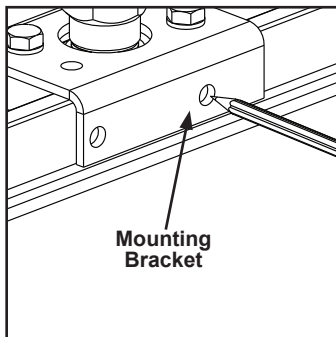

Figure 3-9
- Step 1. Use rail mounting bracket as template to mark rail. See Figure 3-9